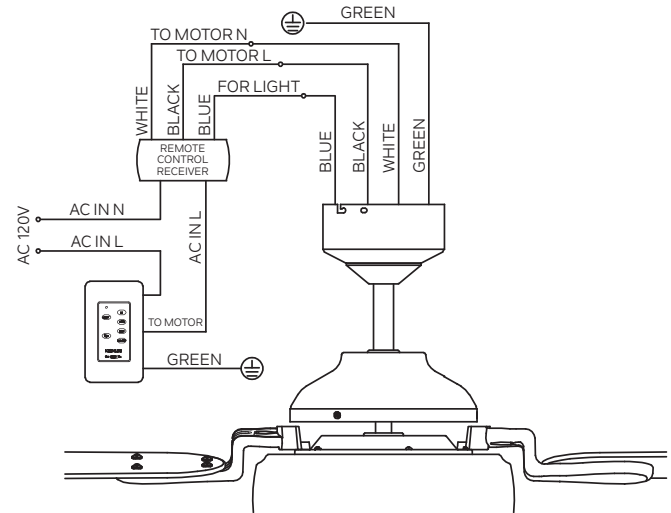

Fig. 16
Step 2. Motor to Receiver Electrical Connections: (Fig. 16) Connect the black wire from the fan to the black wire marked “TO MOTOR L” on the receiver. Connect the white wire from the fan to the white wire marked “TO MOTOR N” on the receiver. Connect the blue wire from the fan to the blue wire marked “FOR LIGHT” on the receiver. Secure all the wire connections with the plastic wire nuts provided.
Step 3. (Fig. 16) Receiver to House Supply Wires Electrical Connections: Connect the black (hot) wire from the ceiling to the black wire marked “AC in L” from the receiver. Connect the white (neutral) wire from the ceiling to the white wire marked “AC in N” from the Receiver. Secure the wire connections with the plastic wire nuts provided.
Step 4. (Fig. 16) If your outlet box has a ground wire (green or bare copper) connect it to the fan ground wires; otherwise connect the hanging bracket ground wire to the mounting bracket. Secure the wire connection with a plastic nut provided. After connecting the wires, spread them apart so that the green and white wires are on one side of the outlet box and black and blue wires are on the other side. Carefully tuck the wire connections up into the outlet box.